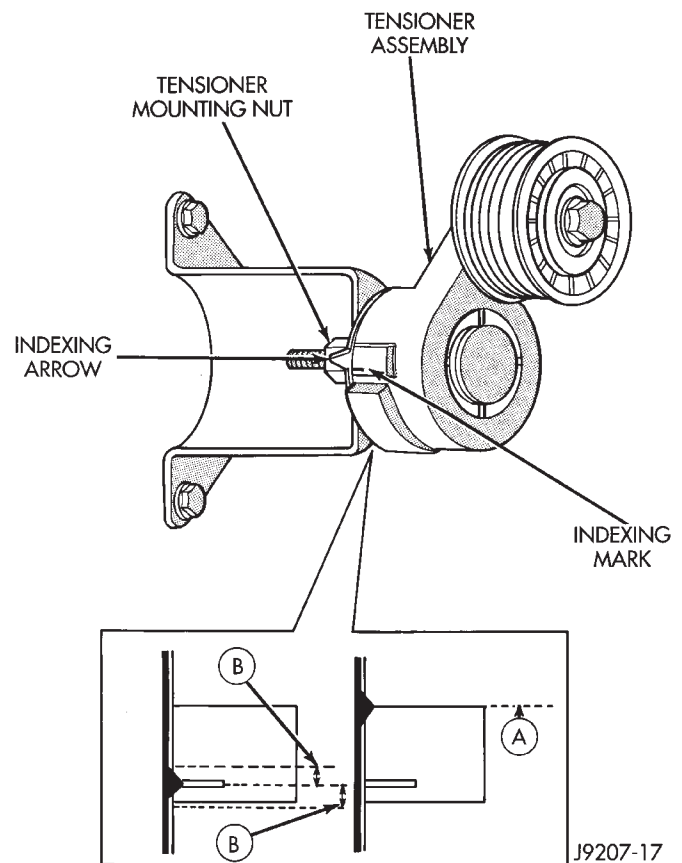

Fig. 65 Belt Tensioner/Pulley Assembly—5.2/5.9L Engines
NOTE: On 5.2/5.9L engines, the tensioner is equipped with an indexing arrow (Fig. 65) on back of tensioner and an indexing mark on tensioner housing. If a new belt is being installed, arrow must be within approximately 3 mm (1/8 in.) of indexing mark (point B-) (Fig. 65). Belt is considered new if it has been used 15 minutes or less.
NOTE: A used belt should be replaced if tensioner indexing arrow has moved to point-A (Fig. 65). Tensioner travel stops at point-A.
(1) Remove accessory drive belt. Refer to Belt Replacement/Adjustment in this group.
(2) Disconnect wiring and secondary cable from ignition coil.
(3) Remove ignition coil from coil mounting bracket (two bolts). Do not remove coil mounting bracket from cylinder head.
(4) Remove tensioner assembly from mounting bracket (one nut) (Fig. 65).
(5) Install drive belt. Refer to Belt Removal/Installation in this group.
(6) Check belt indexing marks (Fig. 65).